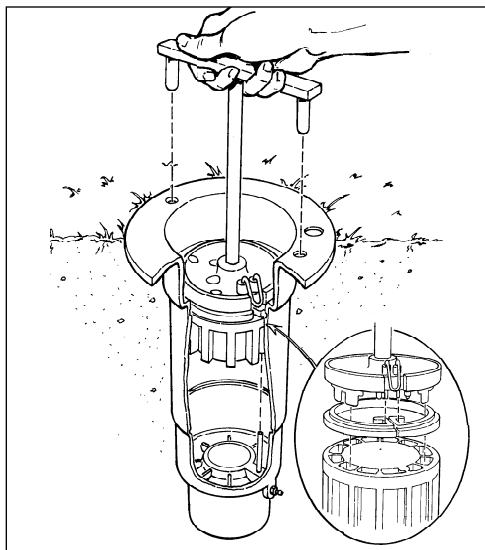

Figure 9
3. To reinstall valve assembly with snap ring and to prevent damage to the communication tube in sprinkler body, use valve insertion tool (P/N 995-10). Valve insertion tool will automatically line up valve assembly with sprinkler body communication tube and correctly seat the snap ring. (See **Figure 9**).
NOTE: It is possible to install the snap ring backwards (upside down). See inset in **Figure 9** to insure that snap ring is placed on the insertion tool in the correct manner.